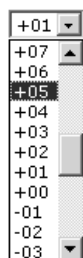

Figure 6-13 — Gain drop box
4. Click the Input Audio Level (dB) drop box. A drop-down scroll box appears (figure 6-13).